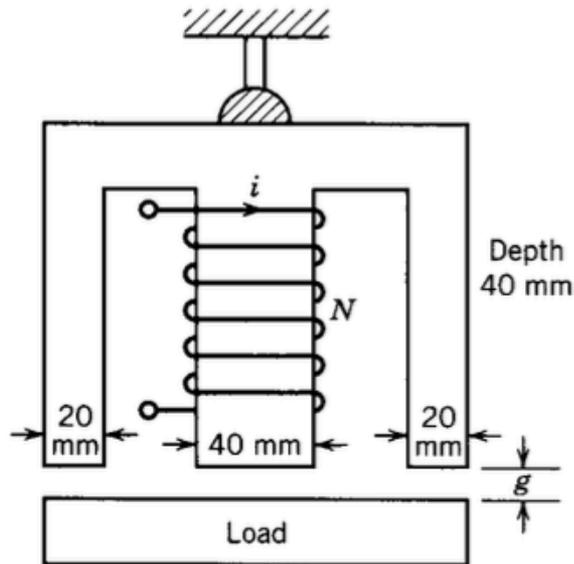

FIGURE P3.5
- 3.5** An electromagnet lift system is shown in Fig. P3.5. The coil has 2500 turns. The flux density in the air gap is 1.25 T. Assume that the core material is ideal.